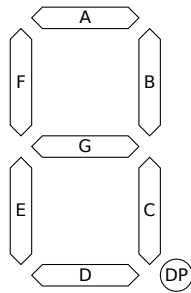

Figure 1: Labelling of a 7-segment digit including a decimal point (DP)
Let's start with a quick example to get most users up and running. We will assume a 4-digit 7-segment common anode display. The segments in each digit are labelled A to G in the standard way as depicted in Fig. 1. Some displays also have an 8th segment for the decimal point (DP). This example assumes a display without that segment (see Sec. 3.3 for how to use `SevenSeg` with decimal points).
Defines the segments A-G (c.f. Fig. 1) to be connected to the Arduino I/O pins given by the variables with the same name. See Sec. 2 for example.
Specifies that the digits have a decimal point (DP) as depicted in Fig. 1, and that its segment is connected to `DPPin`. See Fig. 10 for an example of a display with a decimal point.